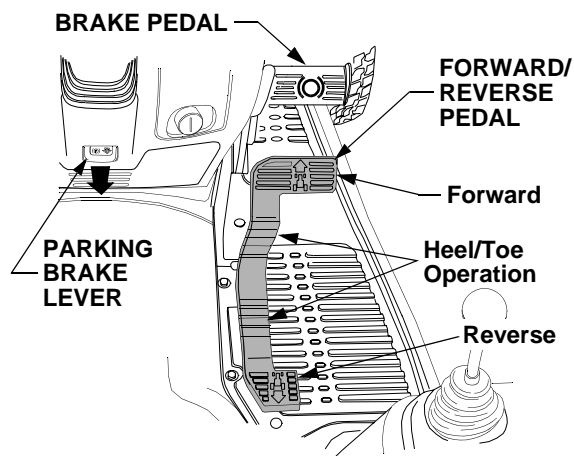

Figure 15
- Fully depress the brake pedal to bring the tractor to a complete stop. Push downward on the parking brake lever and release the pedal to engage the parking brake. Refer to Figure 15.
- To move forward, slowly depress the front of the forward/reverse pedal until the desired speed is achieved. The speed of the tractor is directly related to the distance the pedal is depressed. Refer to Figure 15.